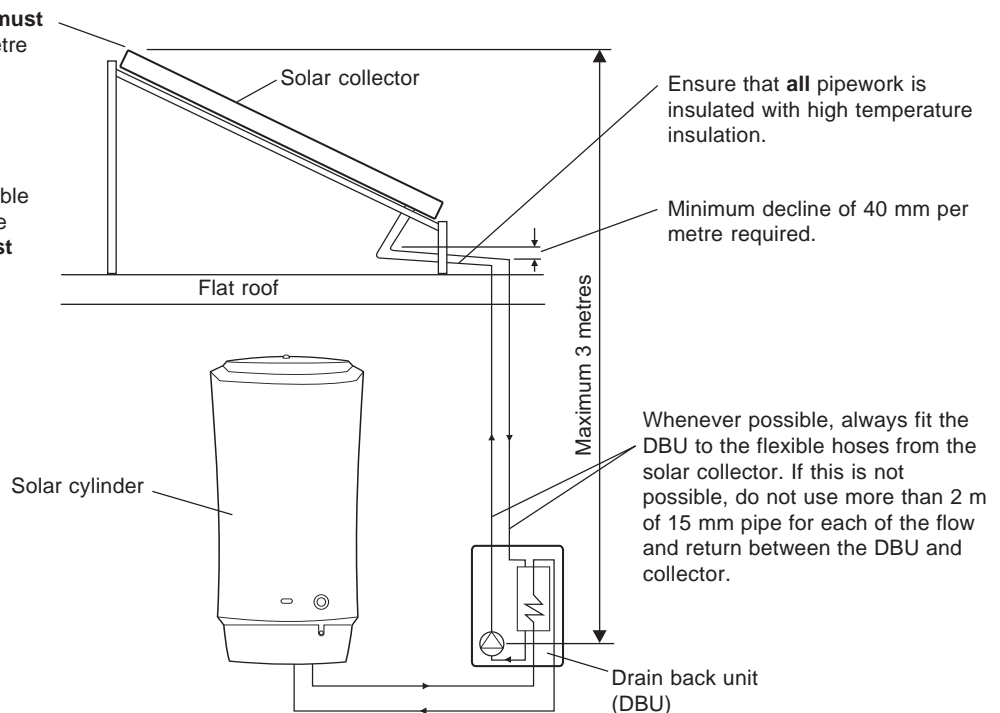

Fig. 8
The DBU must be located within a height of 3 metres of the top of the Solar collector, see Fig. 8. The pipework from the collector to the DBU **must always** fall by a minimum of 40 mm per metre and **must be** insulated with high temperature pipe insulation.
- b. **Positioning of a landscape collector onto a flat roof:** Using the Alpha Flat Roof Kit (Part No. 6.4000800), the collector is mounted on the framework supplied. The collector is fixed at an inclination of 30° and ballast is used to secure the frame in the required position. Refer to Fig. 8 for details of location of the drain back unit in relation to the collector. Full details of this type of installation are provided in the instructions supplied with the kit.